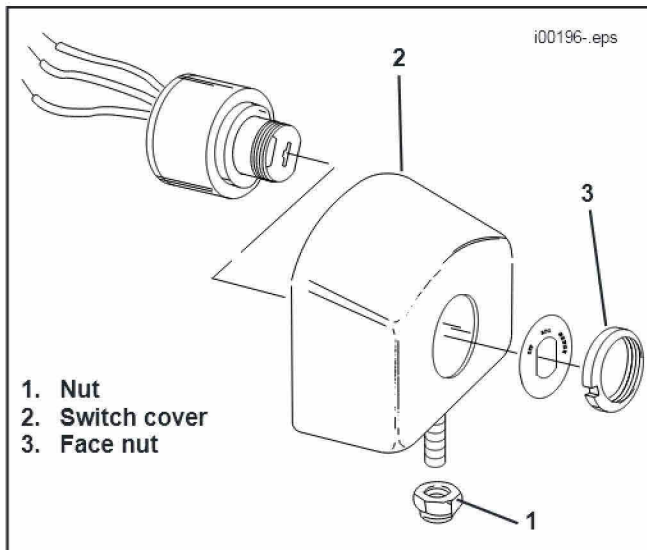

Figure 2 Ignition Switch
4. See Figure 2. Remove nut (1) securing switch cover (2) to upper engine mount.
6. See Figure 2. Remove face nut (3) from ignition switch. Some models may have a washer between switch cover and face nut. Retain this washer and reinstall when mounting switch in new switch housing.